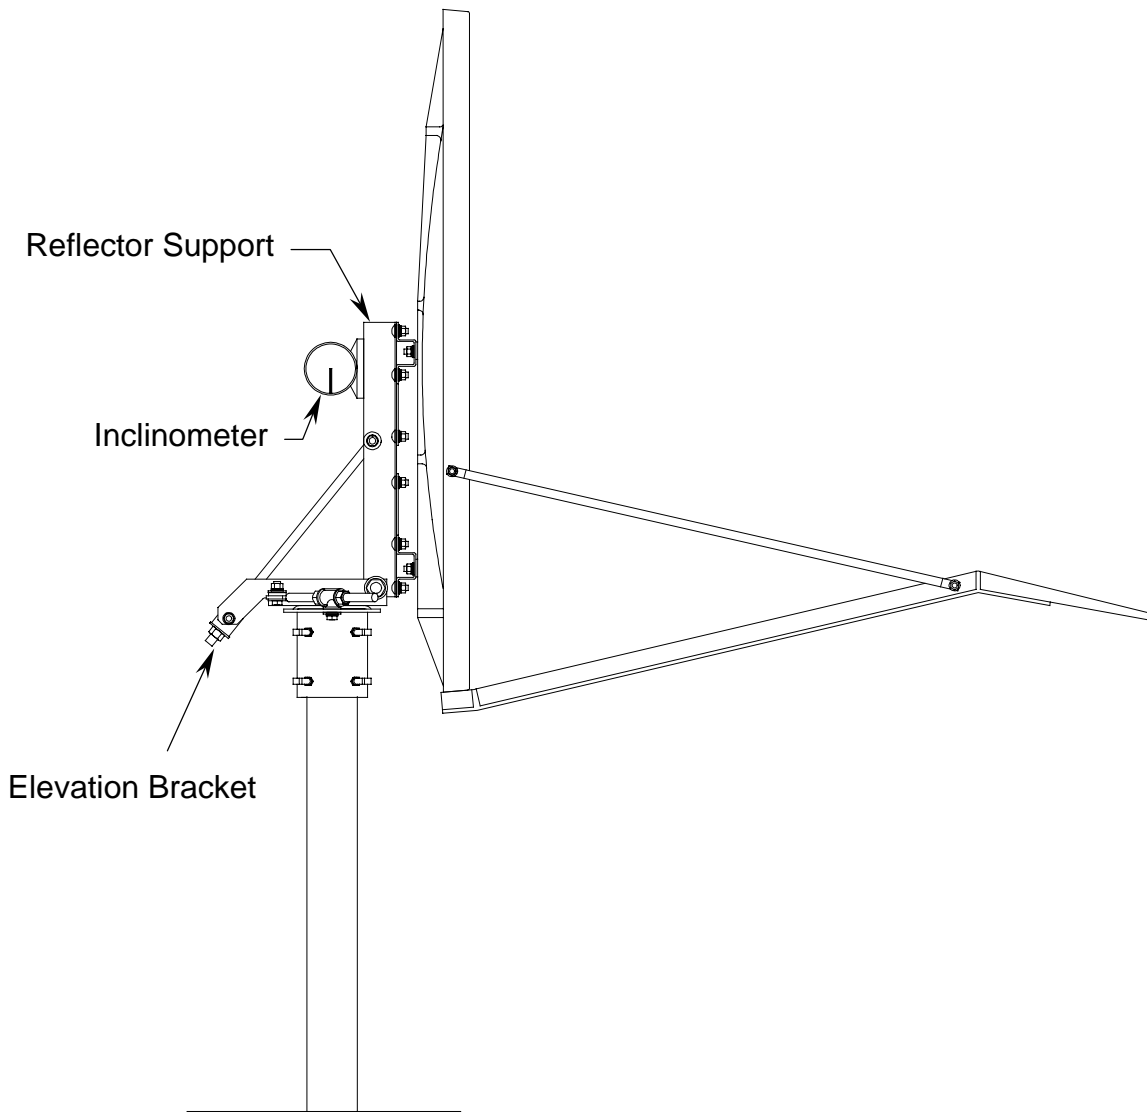

FIGURE 2.
The .98 meter reflector contains a 17.35° elevation offset look angle. Therefore, when the reflector aperture is perpendicular to the ground, the antenna is actually looking 17.35° in elevation. Refer to Figure 2.
- STEP 1:** Place an inclinometer on the reflector support angle as shown in Figure 2.